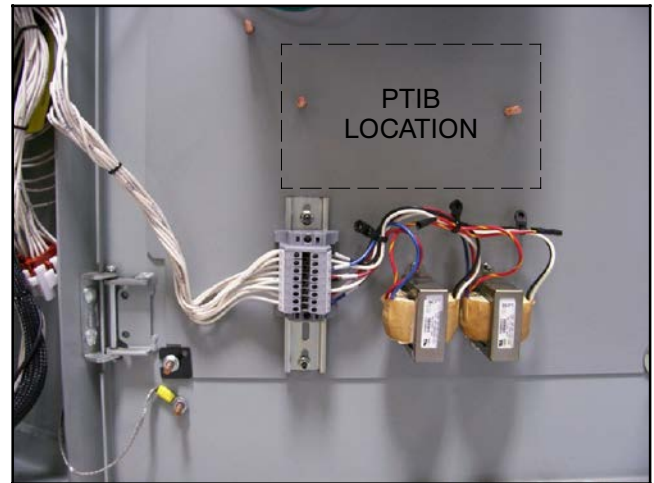
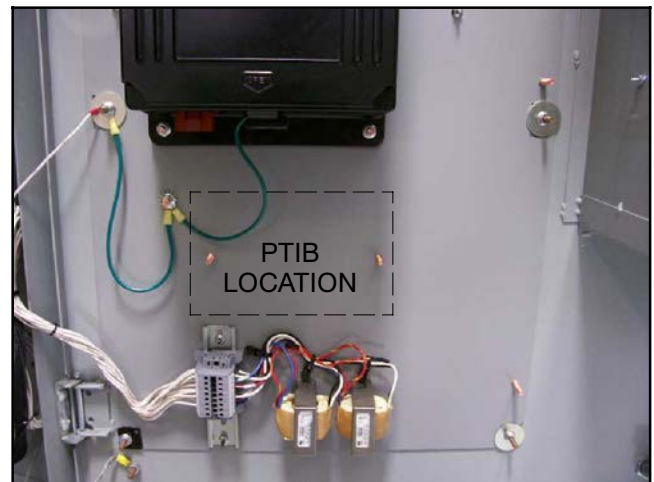

Figure 29 Transformer and Terminal Block Installation
Figure 30 Transformers and Terminal Block Installed
26. Reinstall the transformers and terminal block that were removed in step 14. See Figure 29 and Figure 30.